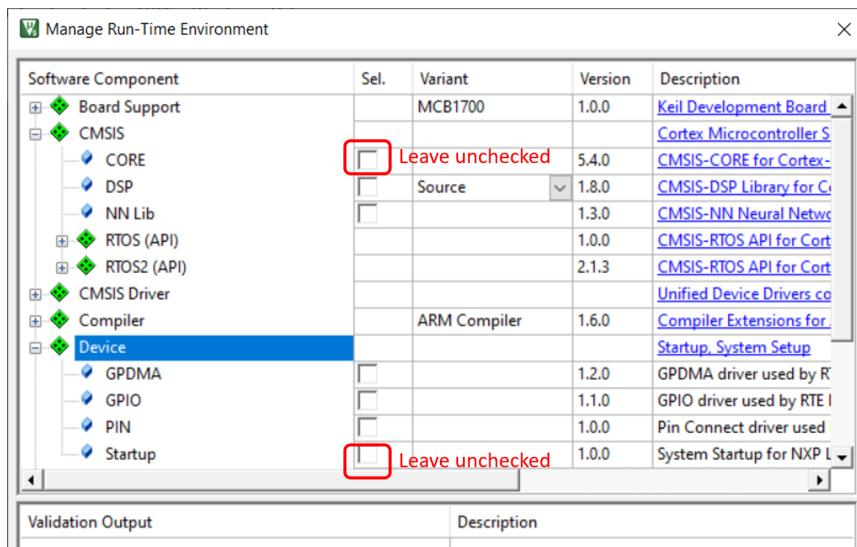

Figure 8.41: Directory Structure of a Multi-Project Workspace. The HelloWorld directory layout is omitted.
big difference is that when asked for configuring the run-time environment, do not select anything, directly click the OK button (see Figure 8.41). Here are the steps.
- Do not select anything in the “Manage Run-Time Environment” pop-up window. Directly click the OK button. Compared with the HelloWorld application creation, the difference is that we should leave the CORE and Startup checkbox unchecked, which is the default setting (see Figure 8.41).